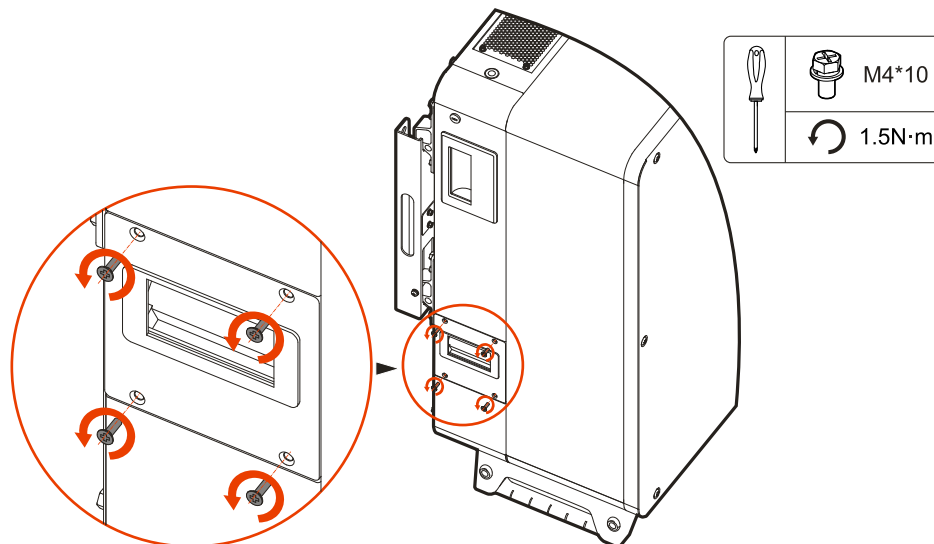

Figure5-1 Loosen the screws of fan cover
- Step 2 Loosen the screws of fan module, as shown in Figure5-1.